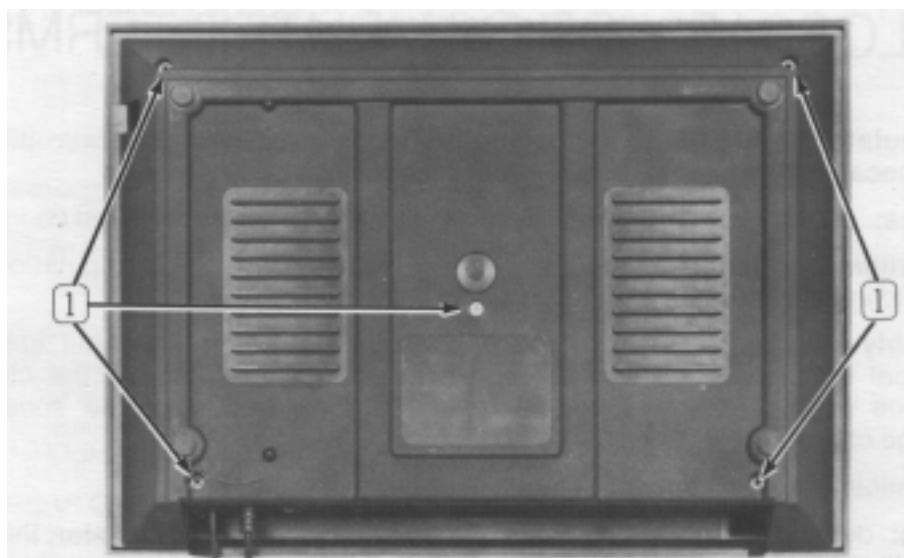

Fig. 1—BOTTOM VIEW
1. Using a magnetized phillips screwdriver remove the five (5) screws on the bottom of the cabinet (figure 1 item 1). Holding the top and bottom sections together, turn the cabinet right-side up.